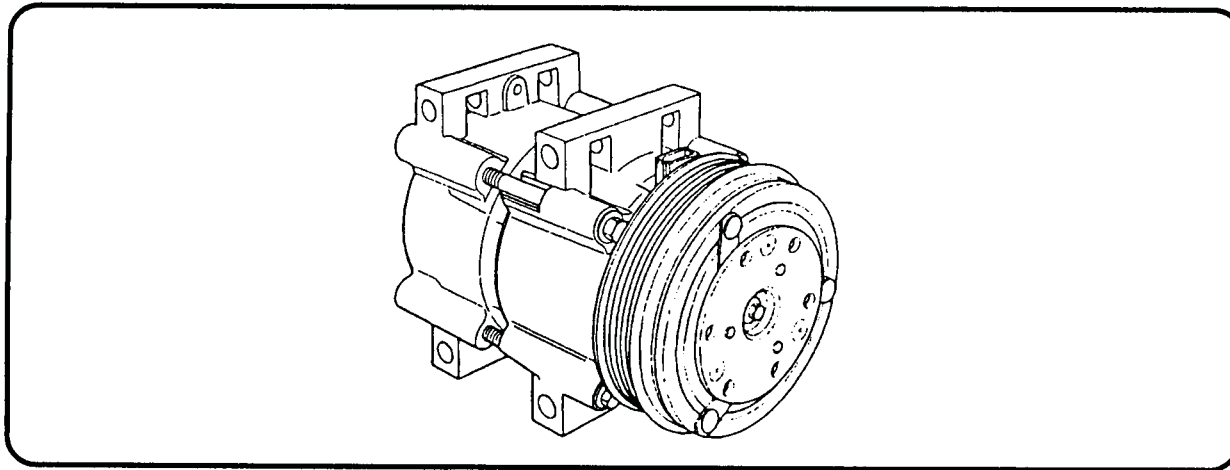

Figure 31
**Description:** The Air Conditioning Clutch is an electronic clutch that is energized when the clutch cycling pressure switch closes. The switch is located on the suction accumulator-drier. The closing of the switch completes the circuit to the clutch and draws it into engagement with the compressor driveshaft (Figure 31).